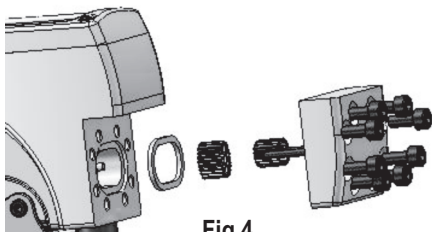

Fig 4
F.4.2 Use a wrench to rotate out of the hexagon screws from the valve body, see Figure 4;